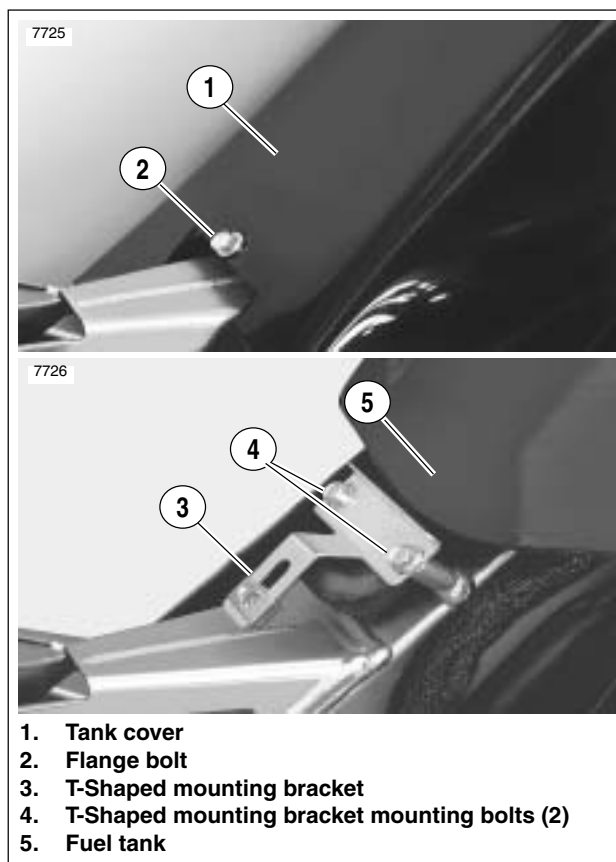

Figure 4-2. Remove Tank Cover Fuel Tank
3. See Figure 4-2. At rear of fuel tank, remove flange bolt (2), with nylon washer, to release tank cover from clip nut on T-shaped mounting bracket (3).
6. See Figure 4-2. Remove tank cover (1) and set aside.
3. See Figure 4-2. At rear of fuel tank, remove remaining two flange bolts (4) to release T-shaped mounting bracket from frame backbone.
3. See Figure 4-2. With the lipped side up, slide two flange bolts through forward holes in T-shaped mounting bracket. Pushing down on rear of tank, start flange bolts into bosses in frame backbone. Alternately tighten flange bolts to 72-96 **in-lbs** (8-11 Nm).
3. See Figure 4-2. At rear of fuel tank, install rear flange bolt (with nylon washer) to fasten tank cover to clip nut on T-shaped mounting bracket. Tighten flange bolt to 30-36 **in-lbs** (3-4 Nm).